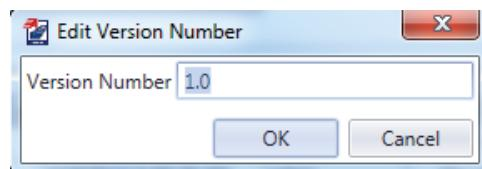

Figure 4.35 Custom Version Number
- **Version:** The **Version** column allows the user to assign a version to the settings revision. The version can either be an automatic increment or a custom number, as shown in *Figure 4.35*. To assign a version number, click the **Edit** button in the lower right corner of the **Settings** view and then click the version field to be changed for options.